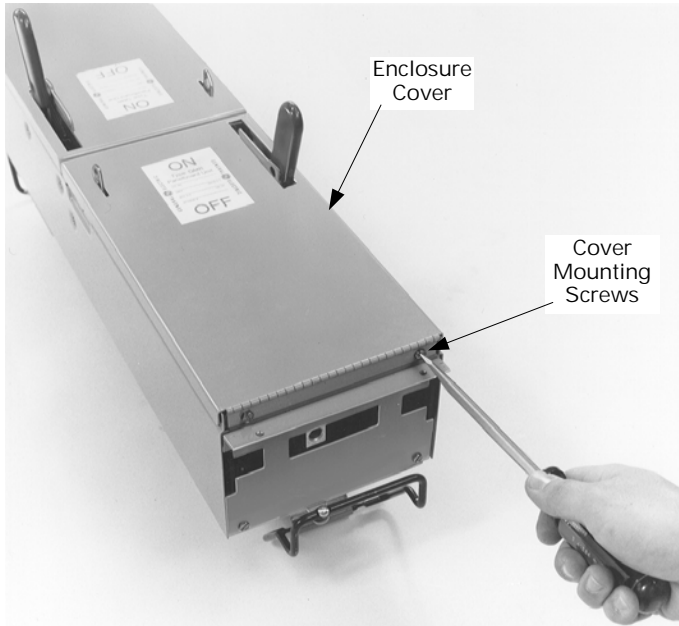

Figure 8. Installing the cover on the enclosure.
8. **Install the cover.** Position the new enclosure cover in place on the enclosure, as shown in Figure 8, and secure to the hinge with #10-32 x 1/4" screws tightened to 27–32 in-lb. Reinstall the fusible switch unit and secure it to the rail locking screws.